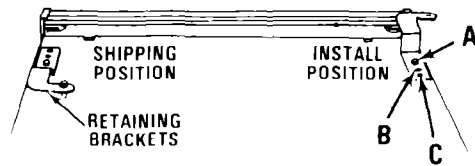

FIGURE 12
- Loosen the screws in the top retaining brackets. Rotate the brackets from shipping position to the install position. Retighten. See Figure 12.